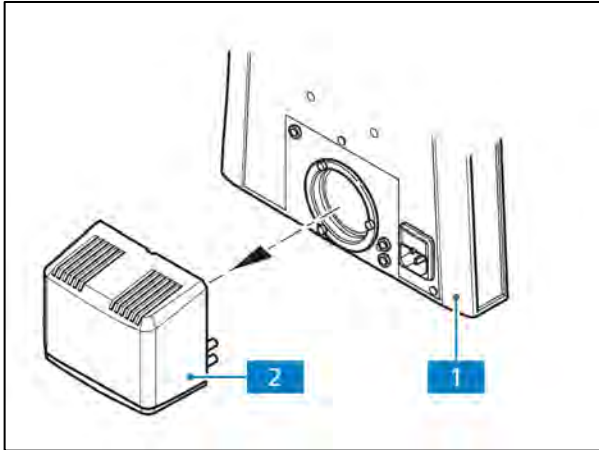

Fig. 3-25 Removing the HAL 50 halogen illuminator from the stand
- Remove the HAL 50 halogen illuminator (Fig. 3-25/2) from the back of the stand (Fig. 3-25/1) and put it down with the open side facing up.